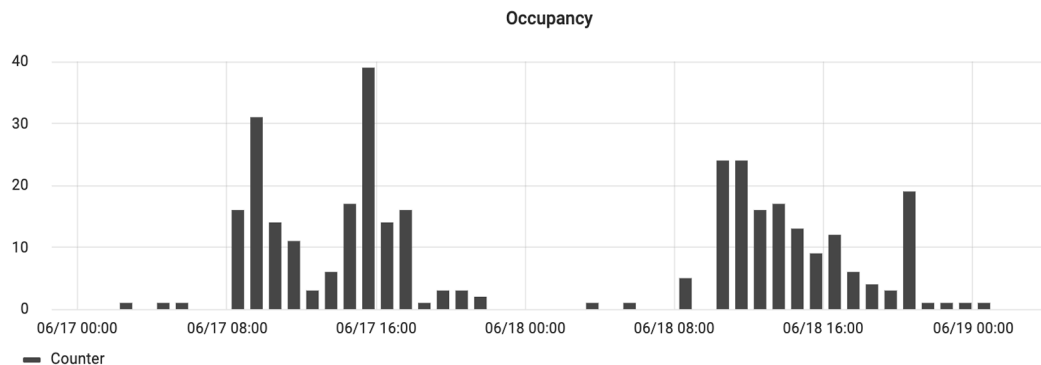

Figure 9 Occupancy monitoring exemplary chart.
1. To open the enclosure, peel off the lower part, as shown in Figure 9.